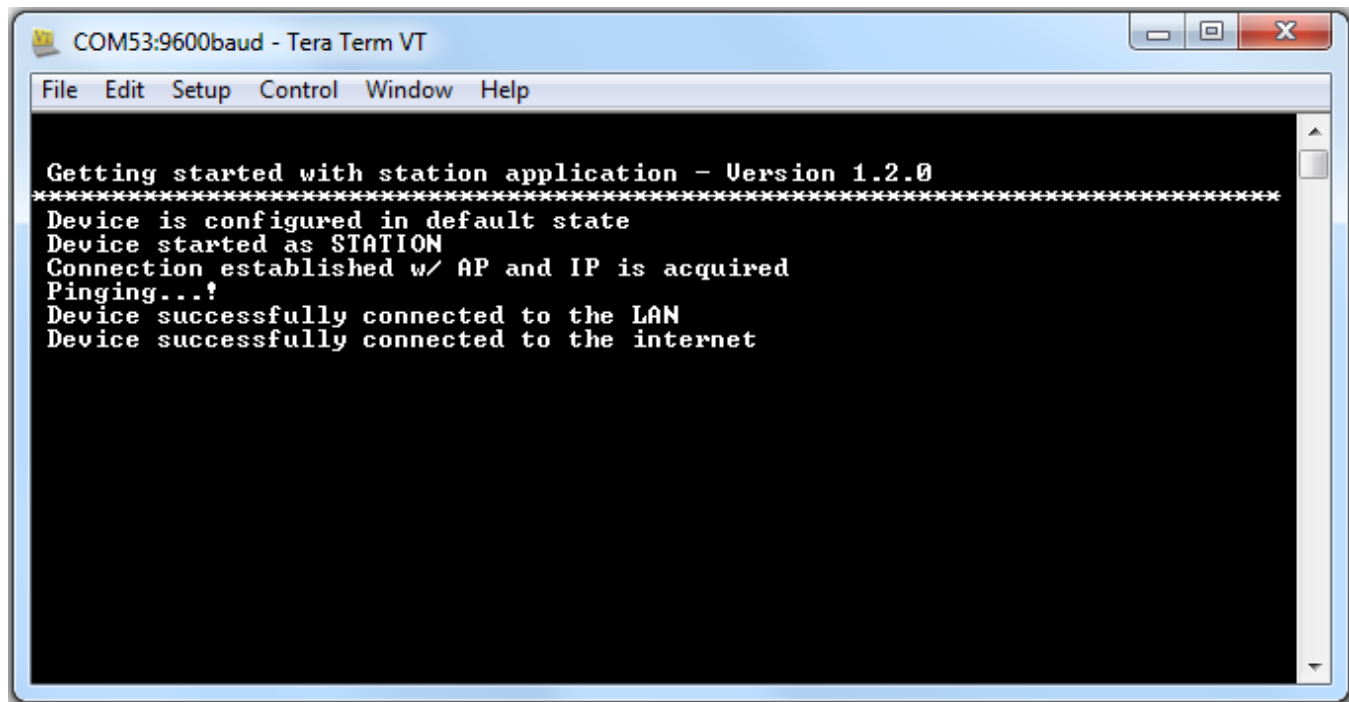

Figure 15. Tera Term VT
10. If the CC3100 successfully completes all steps, the serial output appears as shown in Figure 15.